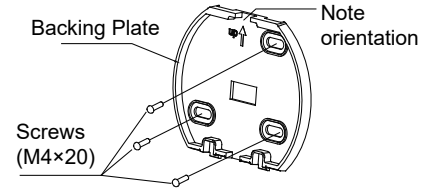

Figure 20.
- For exposed mounting, fasten the Backing Plate on the wall with the screws and plugs supplied. Refer to Figure 20.